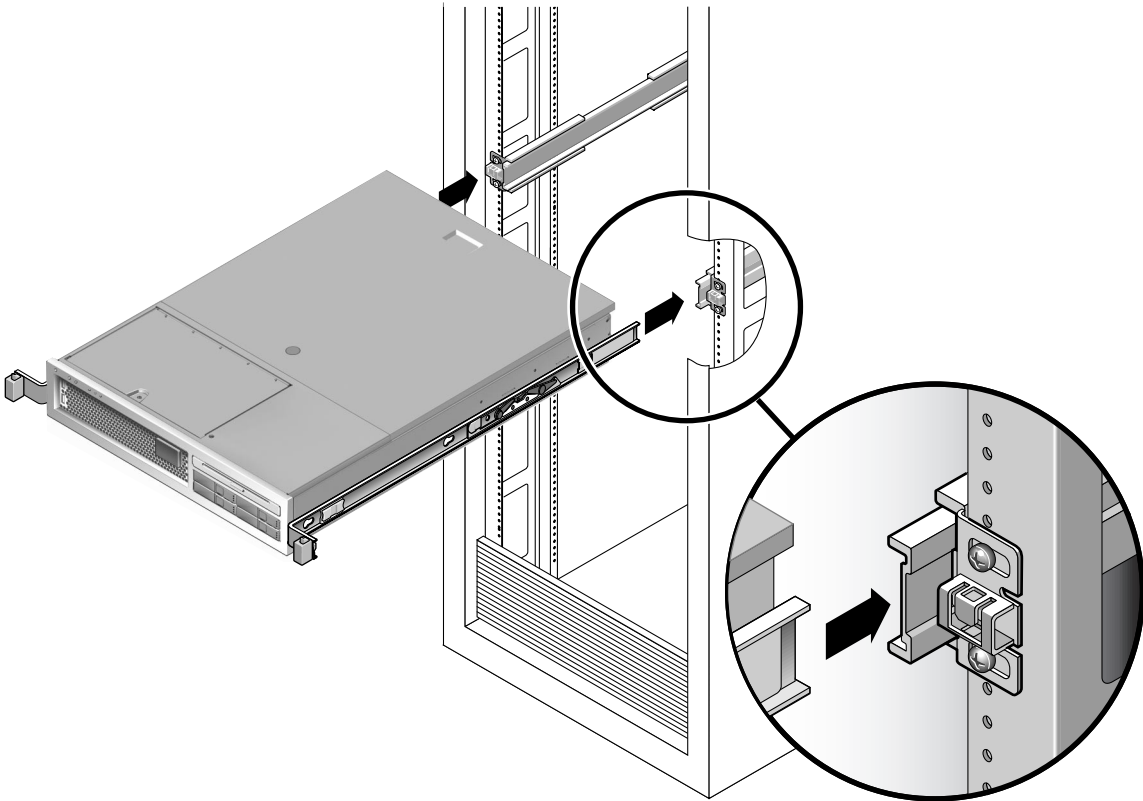

FIGURE 2-7 Mounting the Chassis on the Slide Rails
10. Insert the ends of the mounting brackets into the sliding rails (FIGURE 2-7).